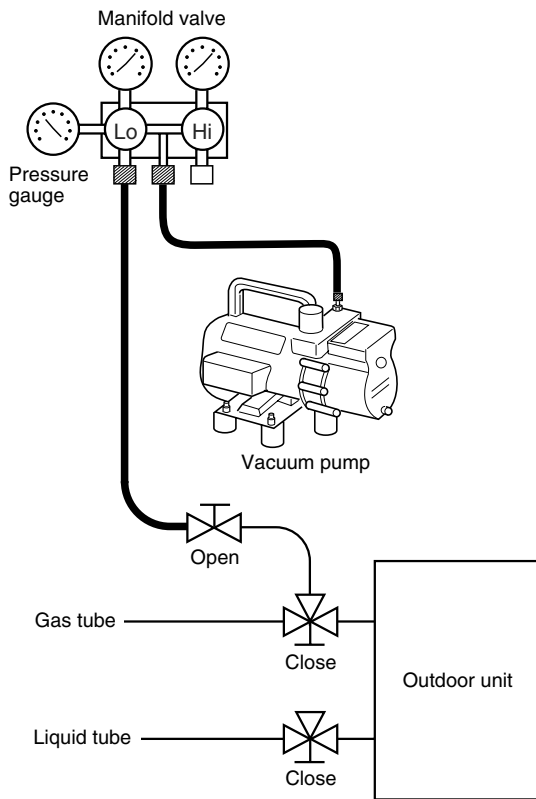

Fig. 8-4
- (1) Attach the charge hose end described in the preceding steps to the vacuum pump to evacuate the tubing and indoor unit. Confirm that the “Lo” knob of the manifold valve is open. Then, run the vacuum pump.
- (2) When the desired vacuum is reached, close the “Lo” knob of the manifold valve and turn off the vacuum pump. Confirm that the gauge pressure is under -101 kPa (-755 mmHg , 5 Torr) after 4 to 5 minutes of vacuum pump operation. (Fig. 8-4)